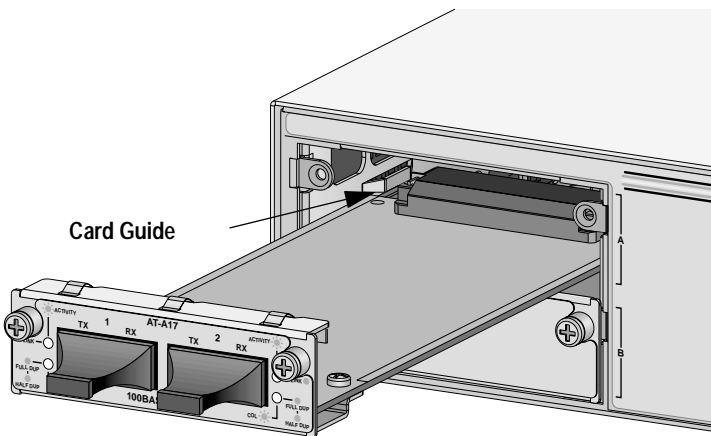

Figure 3-16 Installing an Expansion Module
4. Slide the expansion module into the empty slot making sure the board is aligned properly with the card guides. Refer to Figure 3-16.